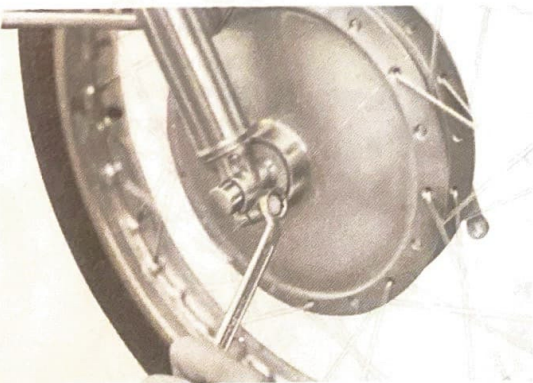

Fig. 5-1-4
- (3) Loosen the front wheel shaft lock bolt (Fig. 5-1-4)